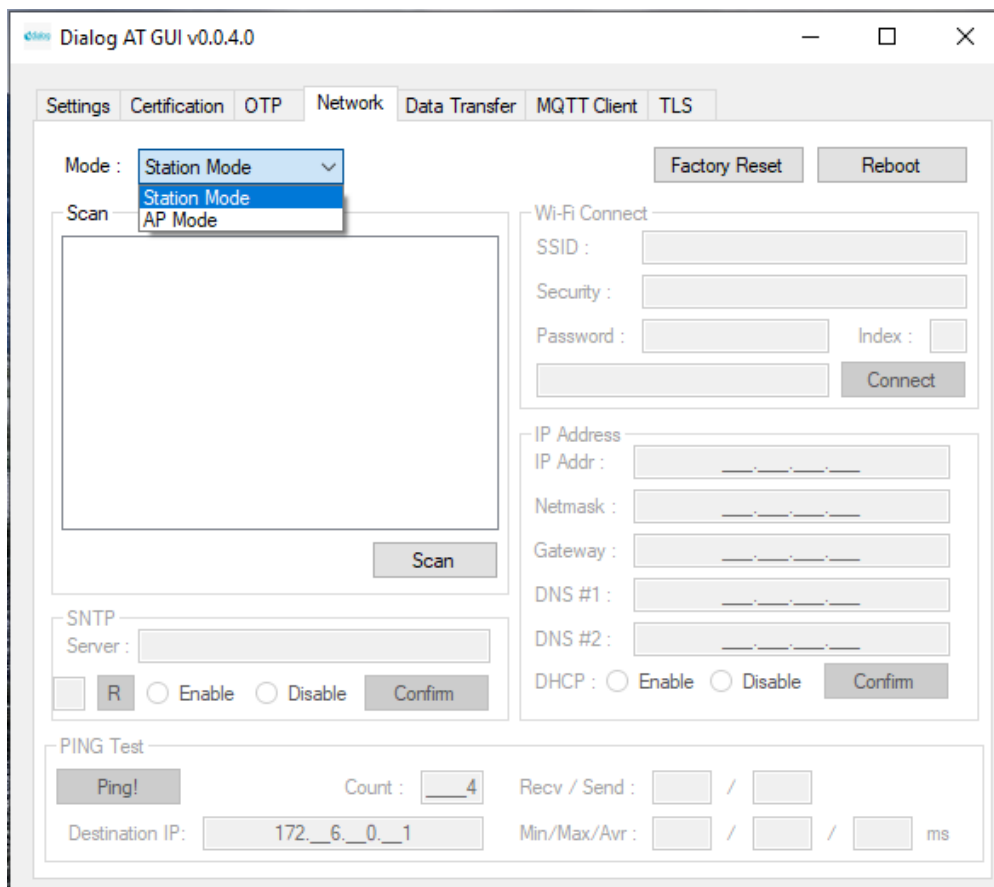

Figure 15: Setup Window – Station Mode
- o The network mode changes, DA16200 reboots, and the station mode setup window opens. See Figure 15